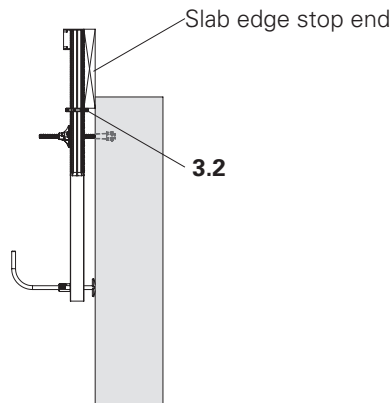
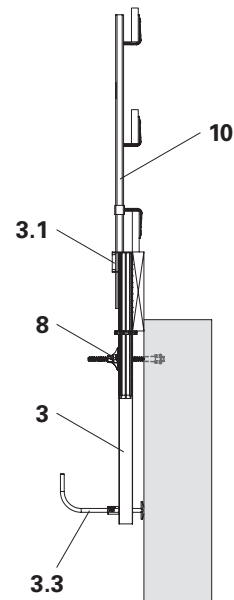

Fig. A3.04
Fig. A3.05
- Place the slab edge stop end on the levelling nut (3.2). (Fig. A3.04)
- Adjust the Slab Stopend Bar 105 (3) with the waler jack (3.3).
- Firmly tighten Wingnut Counterplate DW 15 (8).
- Insert Guardrail Posts HSGP-2 (10) into the holes (3.1) and fit the guardrail. (Fig. A3.05)